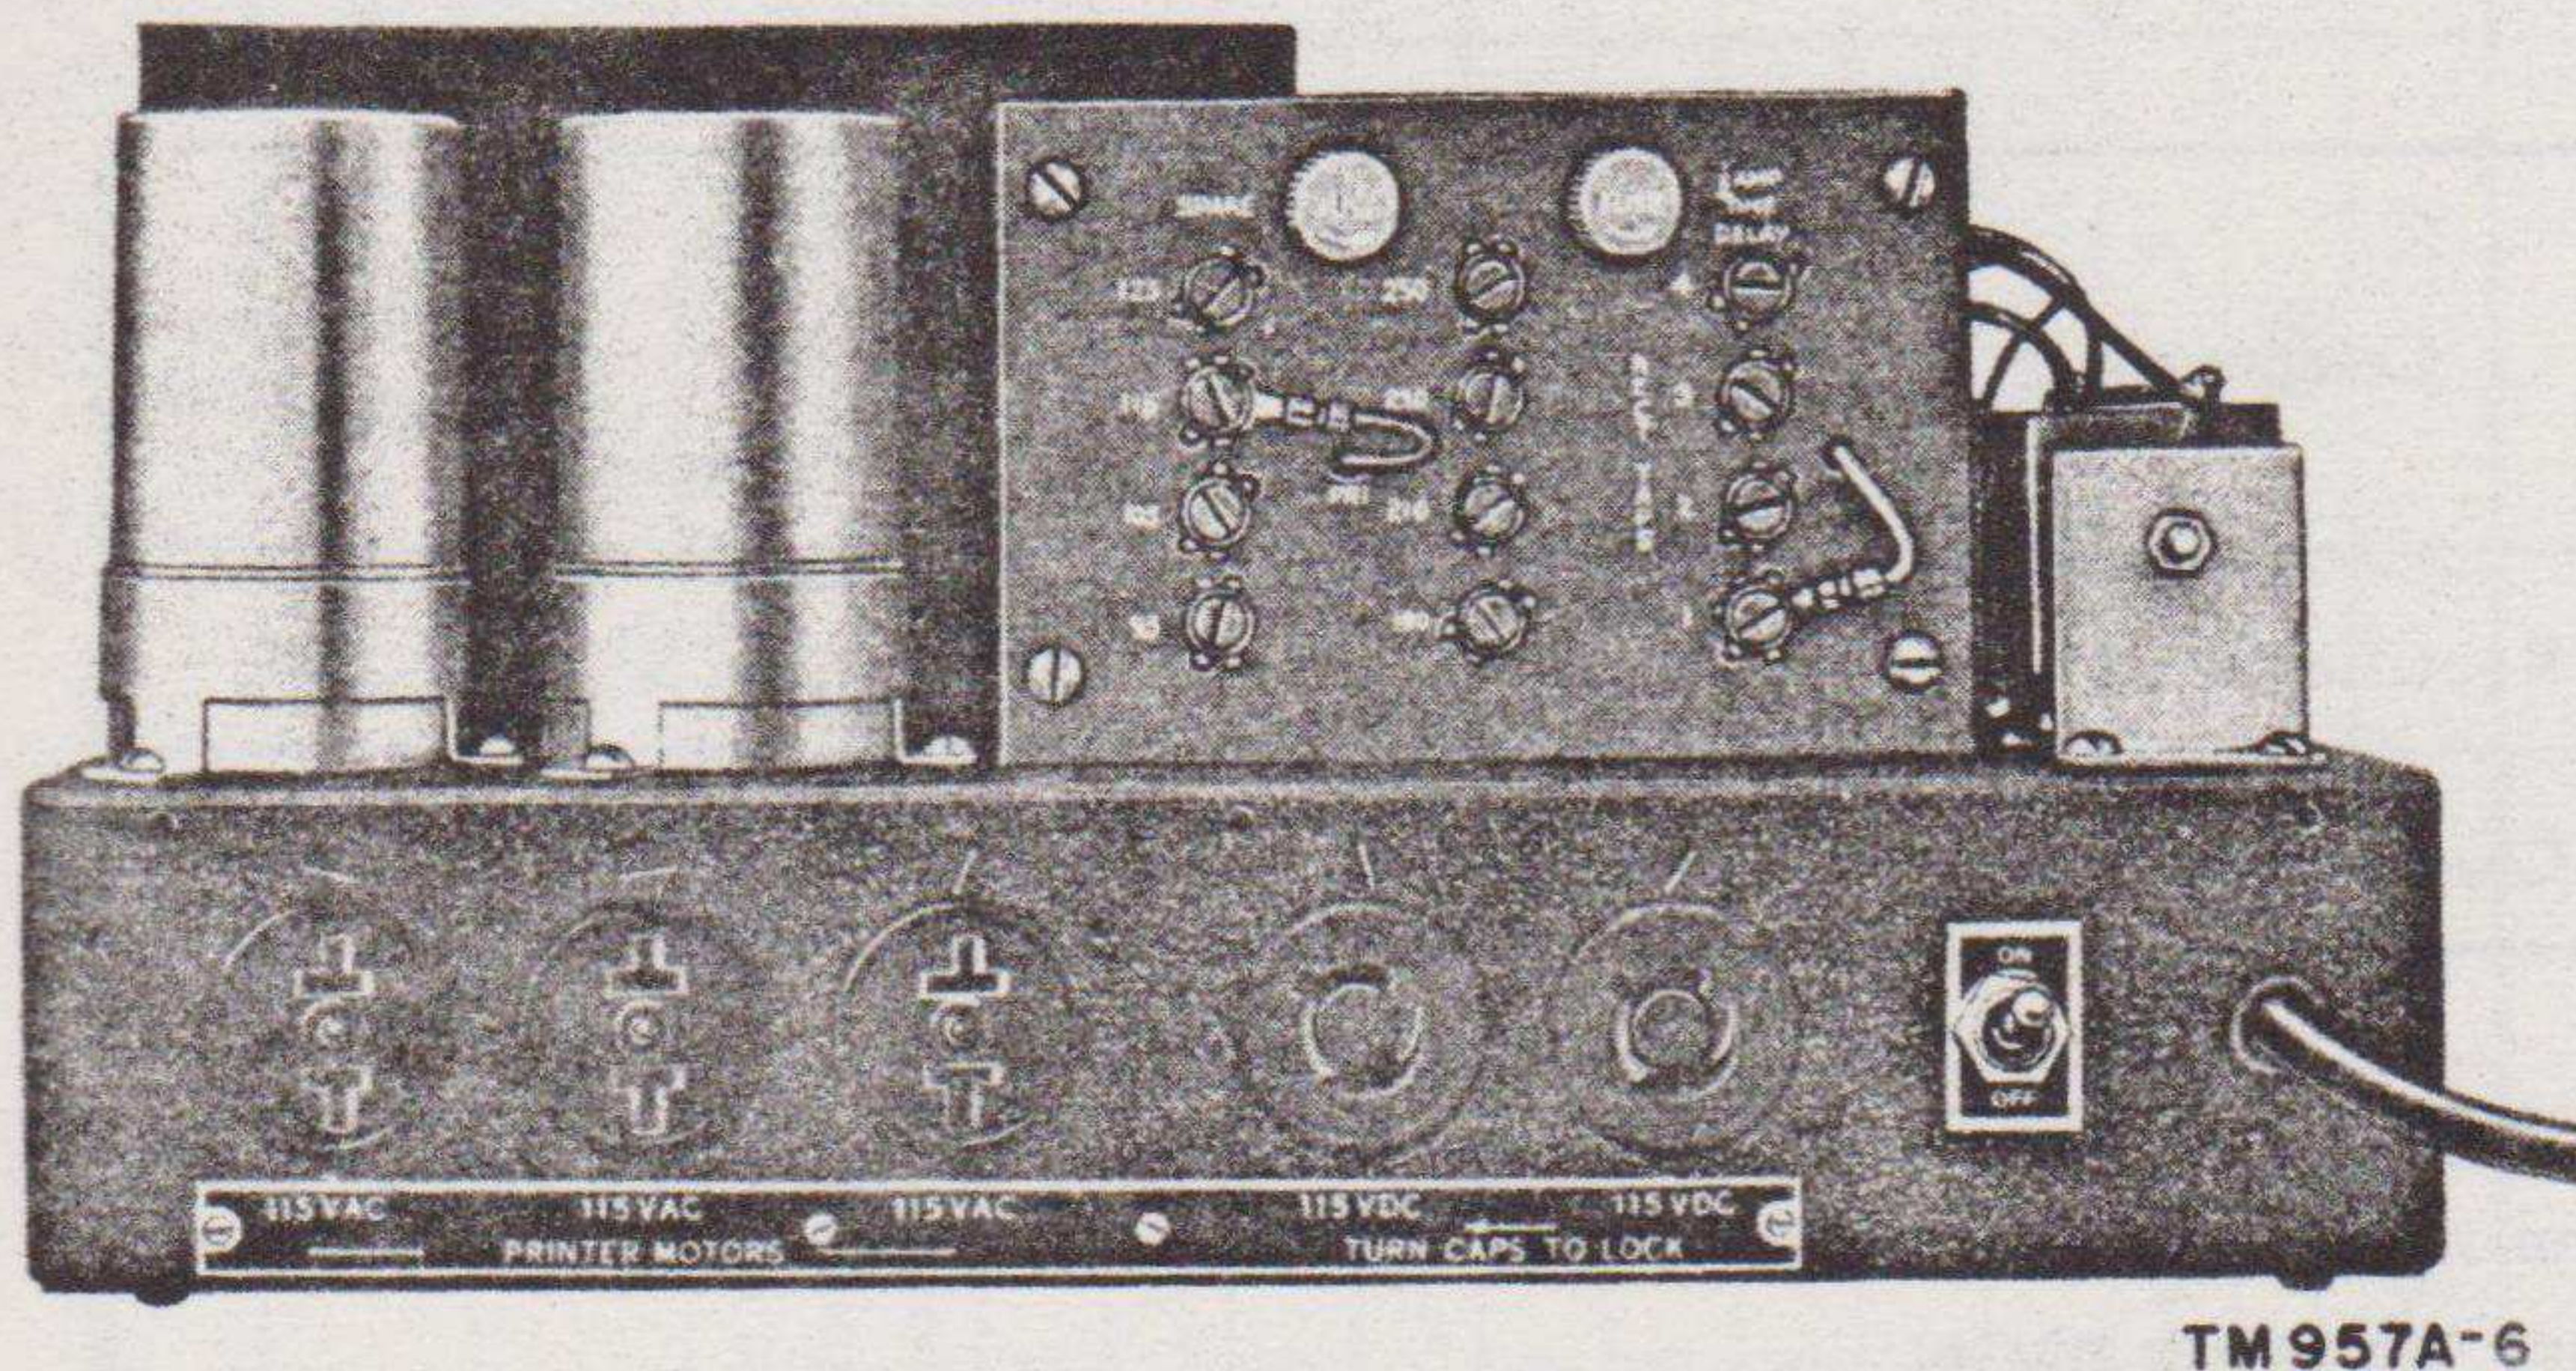

Figure 6. Rectifier RA-87-A, front view.
f. TAP AND FUSE PANEL ASSEMBLY (fig. 6). The tap and fuse panel assembly is mounted near the front of the unit behind a small access door (fig. 1). On a plastic panel, twelve screw-type contact terminals are arranged vertically in three groups of four terminals each. Transformer tap lead E2 (marked PRI) is located between the two left-hand groups and rectifier lead E3 is to the right of the third group. The eight left-hand contacts are the transformer primary winding input tap terminals; they are designated, respectively, beginning at the lower left, 95, 105, 115, 125, 190, 210, 230, and 250 (volts). The four right-hand contacts are the transformer secondary winding output tap terminals; they are labeled RECT TAPS and are numbered, respectively, beginning at the bottom, 1, 2, 3, and 4. The voltage of the input to the rectifier is increased in steps of approximately 5 volts each as lead E3 is moved from tap 1 toward tap 4. Two fuse receptacles are mounted above these groups of terminals. The right-hand receptacle contains a 1/2-ampere, time-delay fuse which is connected into the rectifier input circuit to protect the rectifier; the left-hand receptacle contains a similar fuse which is a spare. Connections to appropriate circuits are made at the rear of the panel.
b. TRANSFORMER TAP CONNECTIONS (fig. 6). Before connecting the rectifier to the supply or to the equipment it is to serve, connect movable lead E2 (marked PR1) on the tap changing panel to the primary tap terminal whose voltage marking most nearly corresponds to the known voltage of the a-c supply. If the voltage of the supply is not known, connect this lead to the 250-volt tap. Connect lead E3 to the tap marked 1. Connect the input cord to the a-c supply, place the rectifier ON-OFF switch in the ON position, and check the voltage of the d-c output at the d-c output receptacles. (The d-c voltmeter of any model of Line Unit BE-77 may be used to check the d-c output voltage of the rectifier.)
- (1) *Primary input adjustment.* If the d-c output voltage is not approximately 115 volts, stop the rectifier by placing the ON-OFF switch in the OFF position and connect the movable lead (PR1) to the next-lower-voltage tap. Start the rectifier and again check the d-c output voltage. If necessary, continue to stop the rectifier, change the lead connection, and check the d-c output voltage until the tap which most nearly provides a d-c output of 115 volts is found. This will be the tap whose voltage marking corresponds most nearly to the voltage of the a-c supply.
- (2) *Secondary output adjustment.* If, after the primary tap which most nearly produces a 115-volt d-c output has been selected, the output voltage is less than 115 volts, it may be increased by changing the movable secondary lead E3 connection to the RECT TAPS. The d-c output voltage will increase in steps of approximately 4 volts each as lead E3 is moved successively to secondary tap 2, 3, and 4. Stop the rectifier while the secondary tap lead connection is being changed.